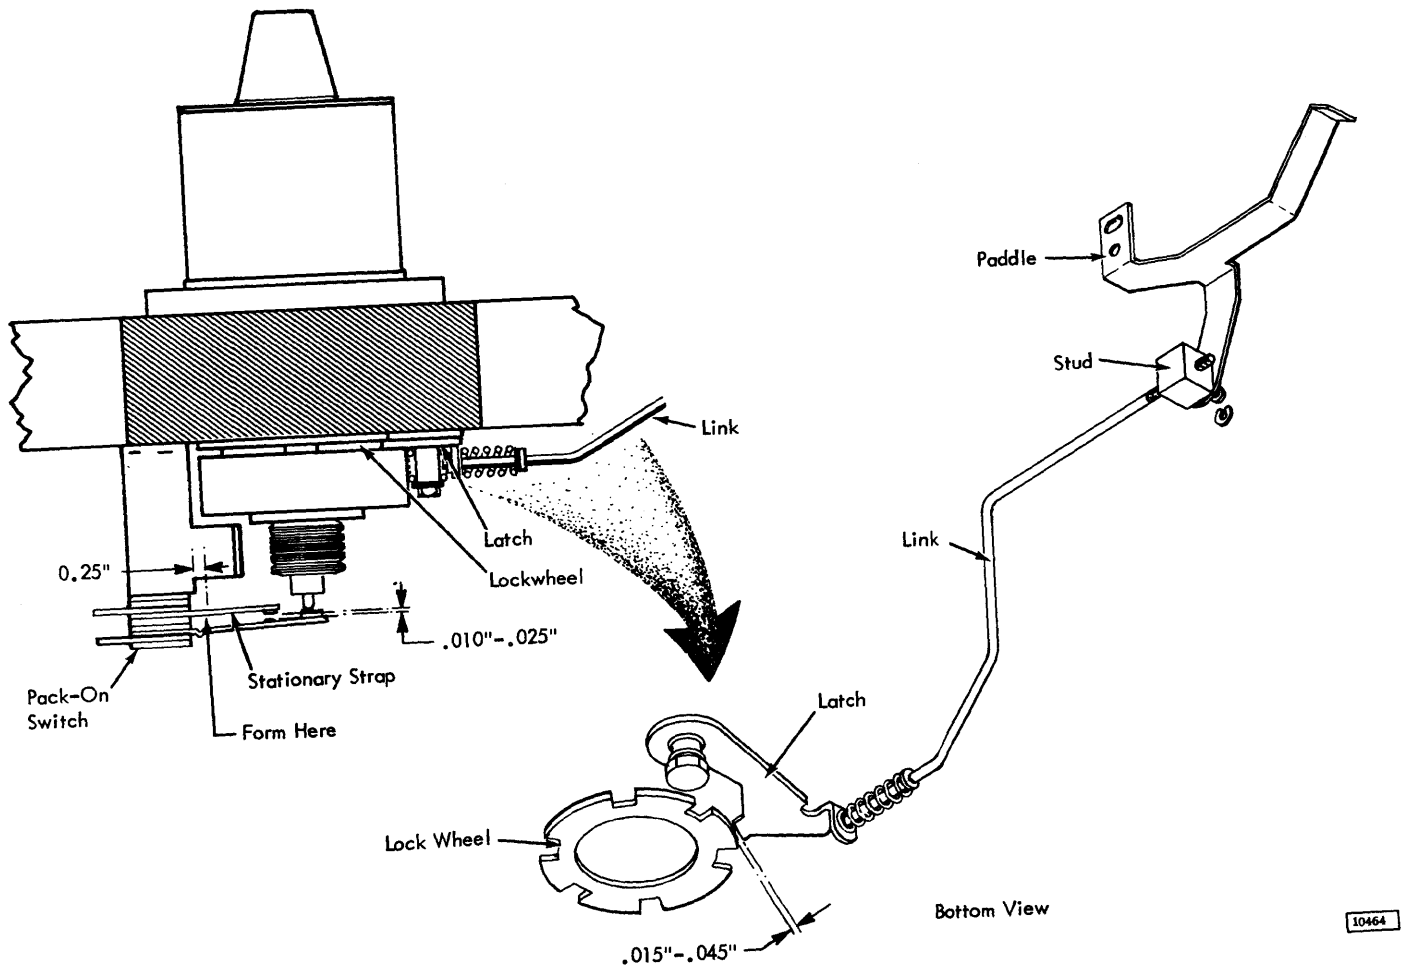

Figure 4-2b. Disk Pack Spindle Assembly (Mechanical Brake)
Mechanical Brake Assembly (Figure 4-2b)
1. Remove clip holding stud to paddle (Figure 4-2b) and disconnect stud from paddle.
2. Turn stud on threaded end of link to obtain 0.015" to 0.045" between latch and lock wheel (Figure 4-2b) with the top cover closed.
With no pack on the spindle, form the pack-on-switch stationary strap at the point indicated (Figure 4-2b) for 0.010" to 0.025" gap.